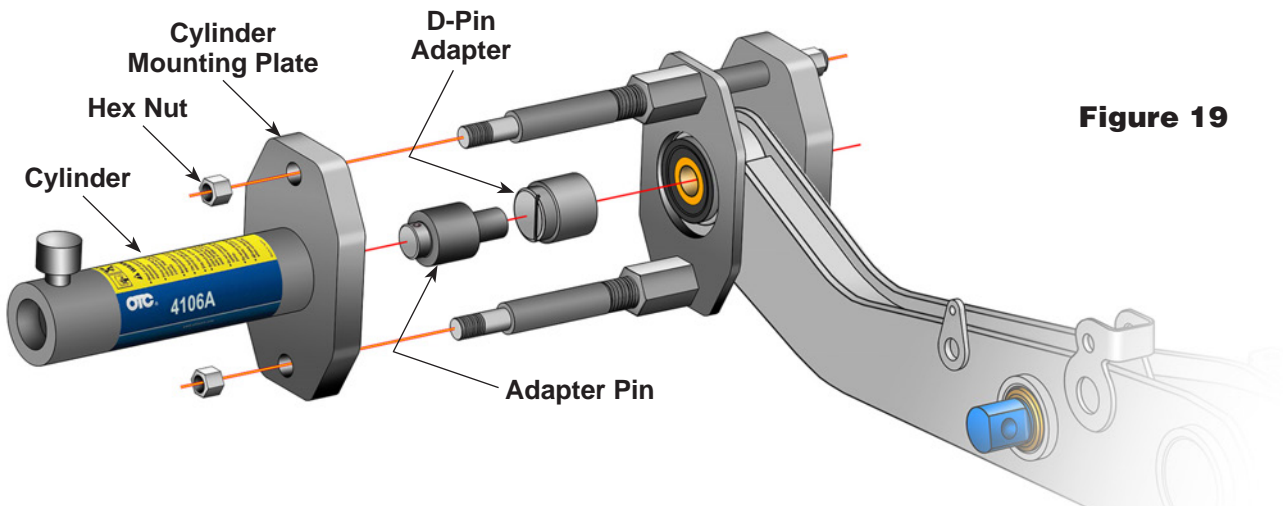

Figure 19
7. Thread the cylinder into the *cylinder mounting plate*. See Figure 19.